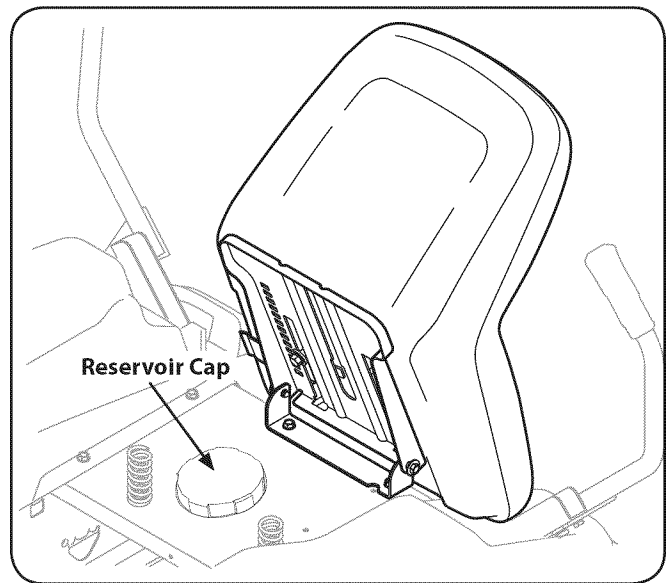

Figure 6-3
1. Pivot the operator’s seat forward and clean the reservoir cap and the area around the cap to prevent debris from contaminating the transmission oil. See Fig. 6-3.